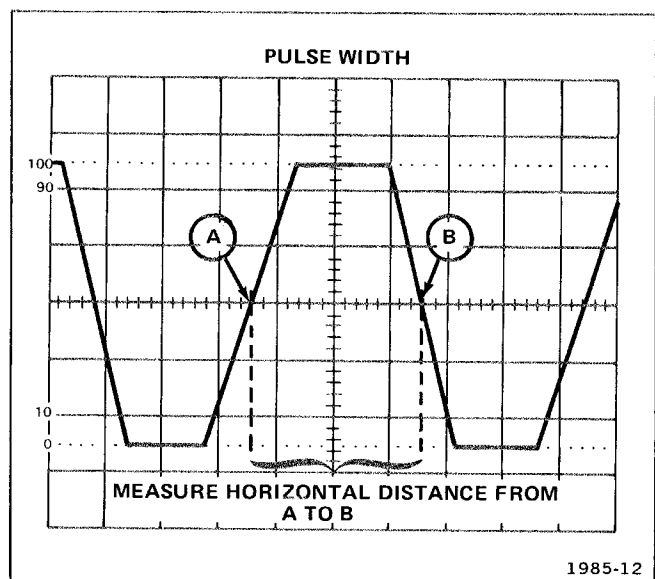

Fig. 1-8. Measuring the pulse width of a displayed waveform.
6. Set the TIME/DIV switch and POSITION control for 1 complete pulse displayed within the center 8 graticule divisions as shown in Figure 1-8.
7. Measure the horizontal distance in divisions between the 50% amplitude points of the displayed pulse (see Figure 1-8).
Example: Assume that the horizontal distance between the 50% amplitude points is 3 divisions, and the TIME/DIV switch setting is $.1 \text{ ms}$ (see Figure 1-8).